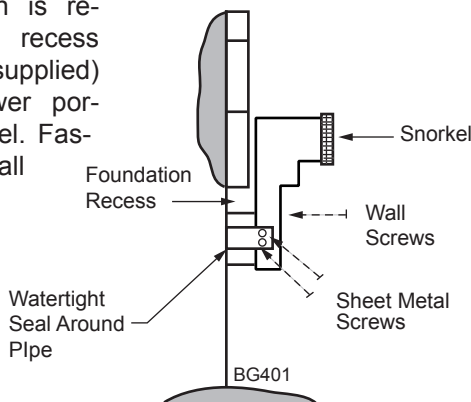

**Figure 21 -
- Remove soil to a depth of approximately 16" (406 mm) below base of snorkel. Install drain pipe. Install window well (not supplied). Refill hole with 12" (305 mm) of coarse gravel leaving a clearance of approximately 4" (102 mm) below snorkel. *Figure 21*
- Level the soil so as to maintain a 4" (102 mm) clearance below snorkel. *Figure 21*